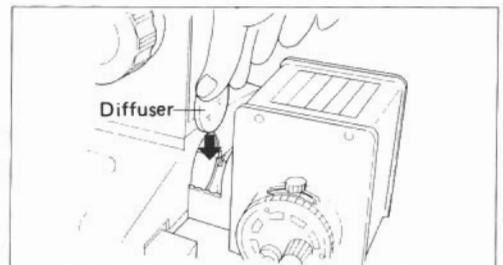

Fig. 8
- 8) As shown in Fig. 8, put the diffuser, with its matte surface faced toward the microscope stand, into the filter receptacle which is the closest to the microscope stand.